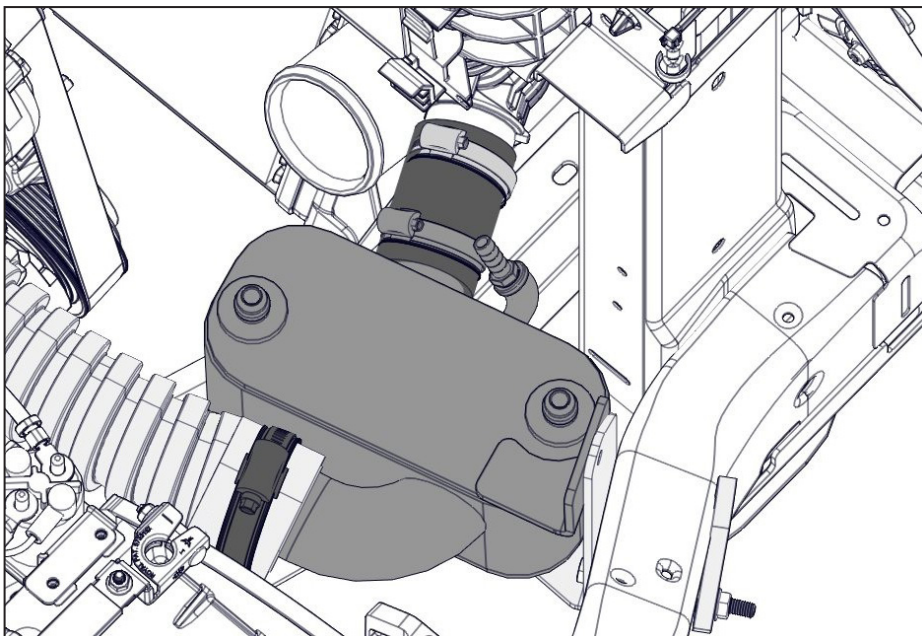

Figure 34 — Mount cooler
- ☐ Mount the cooler onto the cooler bracket, fitting the hoses loosely onto the cooler spigots (Figure 34).